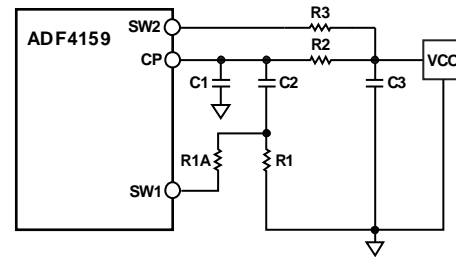

Figure 53. Fast-Lock Loop Filter Topology—Topology 2
- Connect an extra resistor (R1A) directly from SW1, as shown in Figure 53. The extra resistor must be chosen such that the parallel combination of an extra resistor and the damping resistor (R1) is reduced to ¼ of the original value of R1.